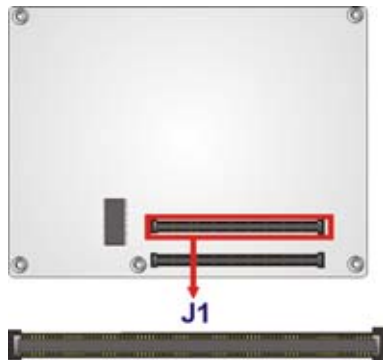

Figure 4-3: COM Express Connector CD Location
- CN Location:** See **Figure 4-3**